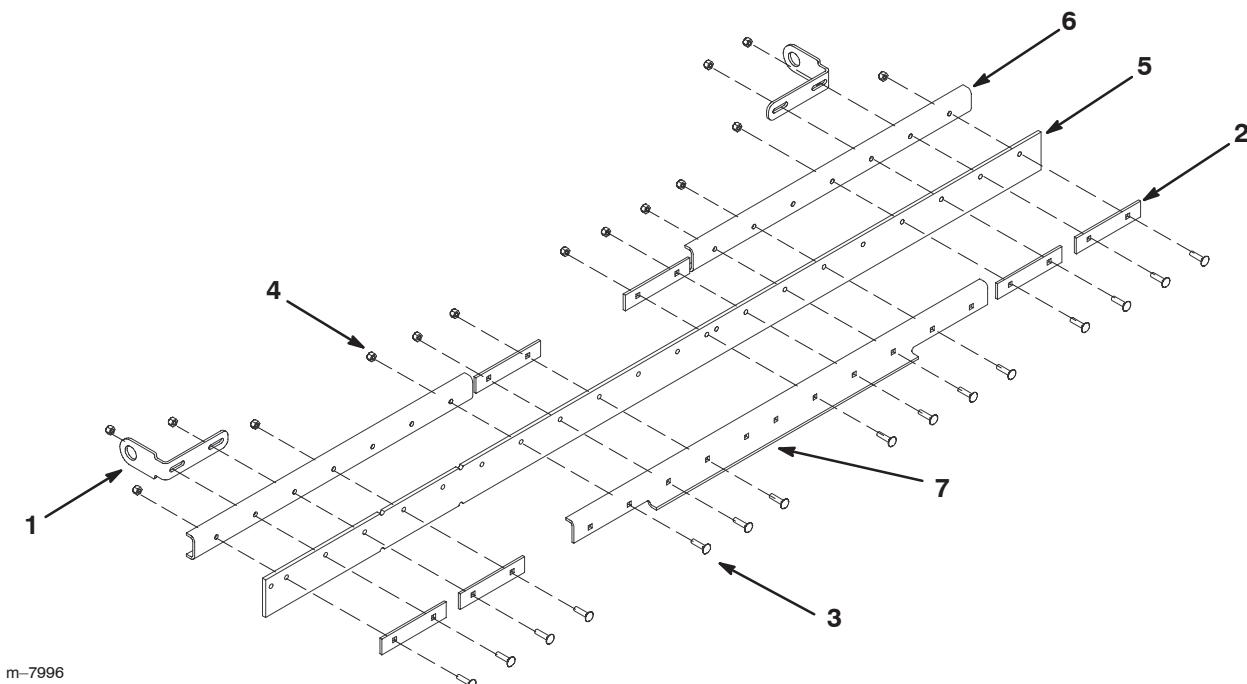

Figure 18
2. Install two carriage bolts (5/16 x 1-1/4 inch) through the support plate, wiper, striping bar, and pivot mounts as shown in Figure 18.
5. Install the rear bar and three extra support plates as shown in Figure 18 using 16 carriage bolts (5/16 x 1-1/4 inch), 16 lock nuts (5/16 inch), and two large flat washers (5/16 inch).